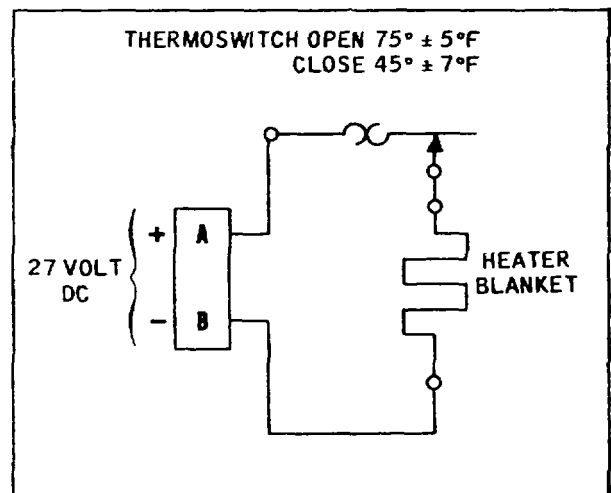

Figure 1-6. Electrical System Schematic Diagram
1.6.1 A two-pin electrical connector on the instrument panel is used for making connections to an external source of 27-volt direct current. This power is supplied to the moisture separator heater blanket and is controlled automatically by a thermoswitch as necessary to prevent freezing of the condensate in the filter and separator assembly. (See figure 1-6.)